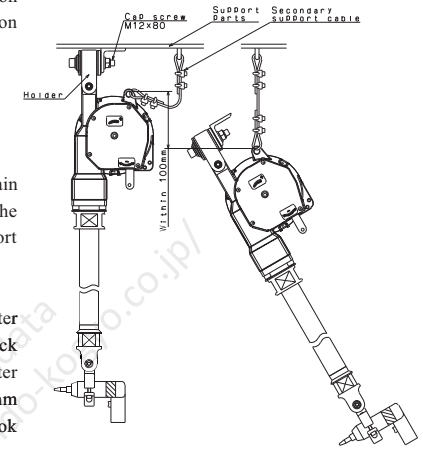

Fig.1
**NOTE:** Leave some slack in the secondary Support cable or chain to allow the Counter reaction balancer to rotate freely. The slack must be a suitable length so that the Counter reaction balancer will stop within 100mm when falling in case of failure of the top hook or the fitting (See Fig.1).